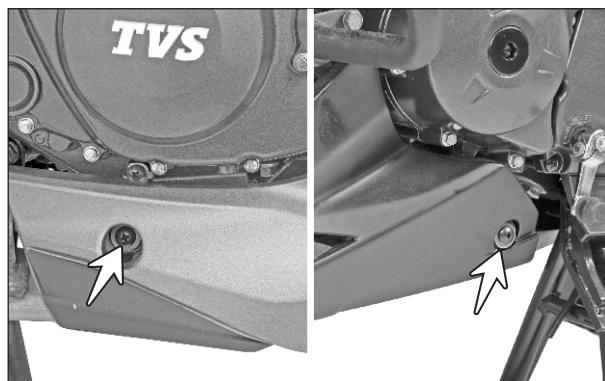

Fig. 3.30
- Remove the CRR pan head screw (M6x20 - 2 nos.) along with plain washers from the LH and RH mounting of engine guard. (Fig. 3.30)